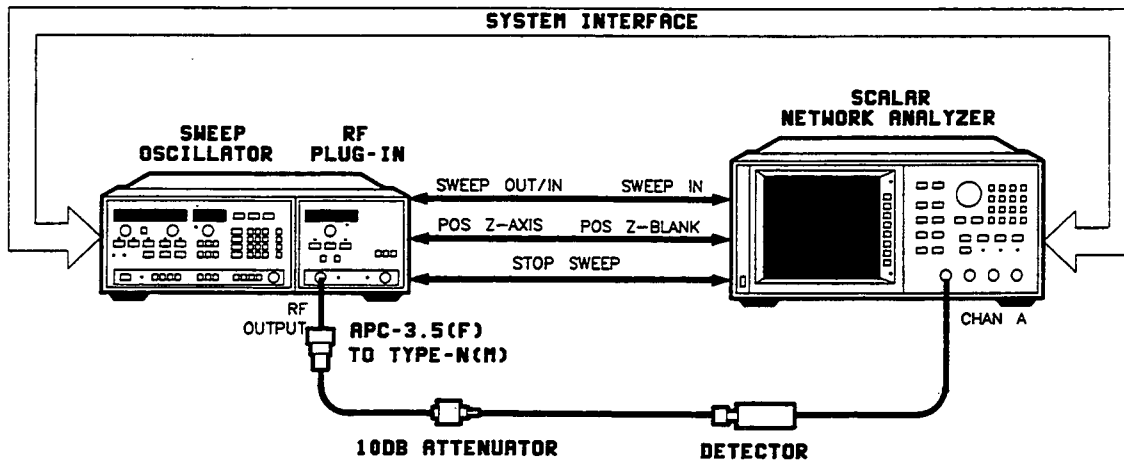

Figure 5-34. Internal Leveled Flatness Adjustment Test Setup
1. Connect the equipment as shown in Figure 5-34. Allow 30 minutes for warm-up.